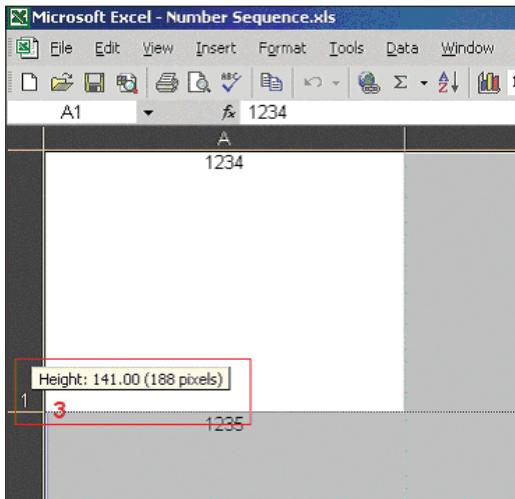

Fig. 4
4. Now that you have the correct size matching your label, change the value in the first cell (*column A, row 1*) and enter any static text you want. Leave it blank for none. In the next cell (*column B, row 1*) enter the number you would like to increment. **See Fig. 4**. The next cell (*column C, row 1*) enter the value you would like to increment by Default is 1.